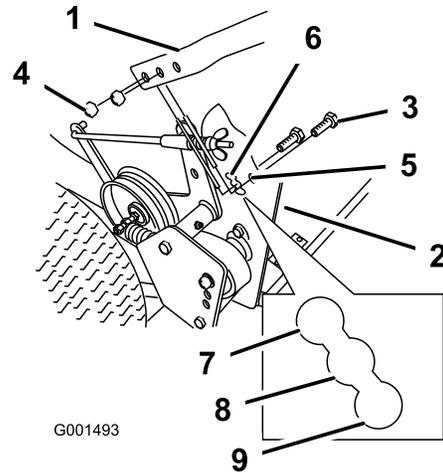

Figure 19
2. Loosen the upper bolts (3/8 x 1-1/4 inches) and flange nut securing handle to rear frame (Figure 19).
3. Remove the lower bolts (3/8 x 1 inch) and flange nuts securing handle to rear frame (Figure 19).